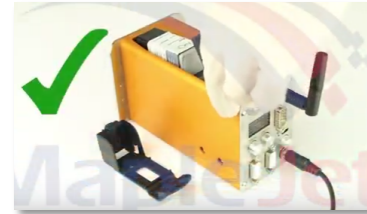

Figure 9. Correct way of inserting the ink cartridge
- Move the paper by hand in front of nozzles (see Figure 9) and trigger the sensor to print.